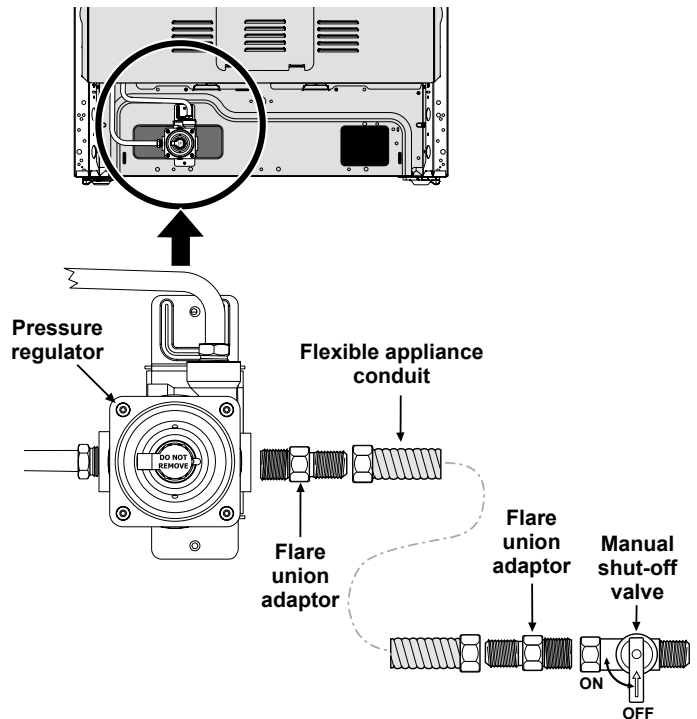

Fig. 8 - gas supply connections
- a. Install an external manual gas shut-off valve to gas supply line in an accessible location outside of range. Be sure you know where and how to shut off the gas supply to the range (See Fig. 8).
- b. Install 1/2" flare union adaptor to gas pressure regulator using **no more than 15ft./lbs.** of torque (Refer to Fig. 8).
- d. Install flare union adaptor to external manual shut-off valve (See Fig. 8).
- e. Attach flexible appliance conduit to flare union adaptor on shut-off valve (See Fig. 8).